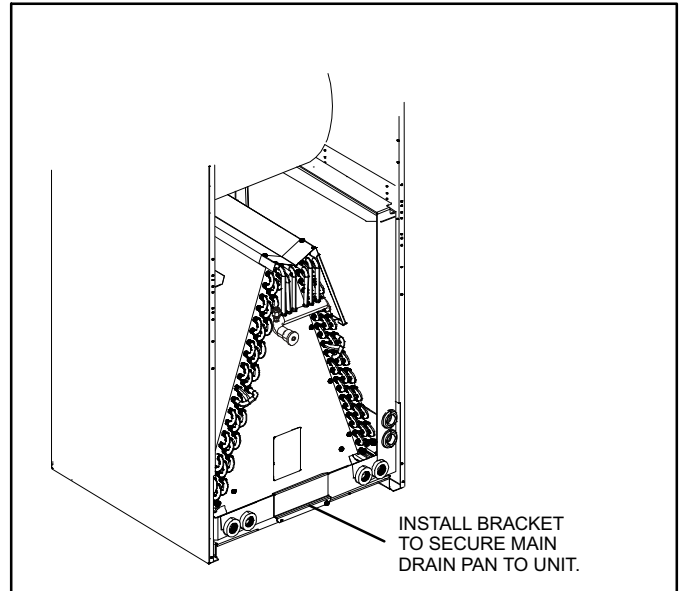

Figure 6. Install Main Drain Pan Mounting Bracket (-018 through -036)
- 5 - Re-install modified coil/drain pan assembly in air handler in the same orientation as before (figures 6 and 7).